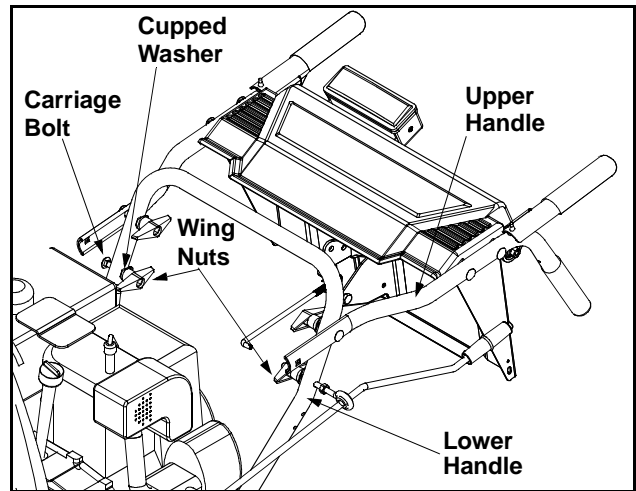

Figure 3
1. Remove the **lower** two plastic wing nuts, cupped washers and carriage bolt (eyebolt on the left side) from the lower handle. See Figure 3.